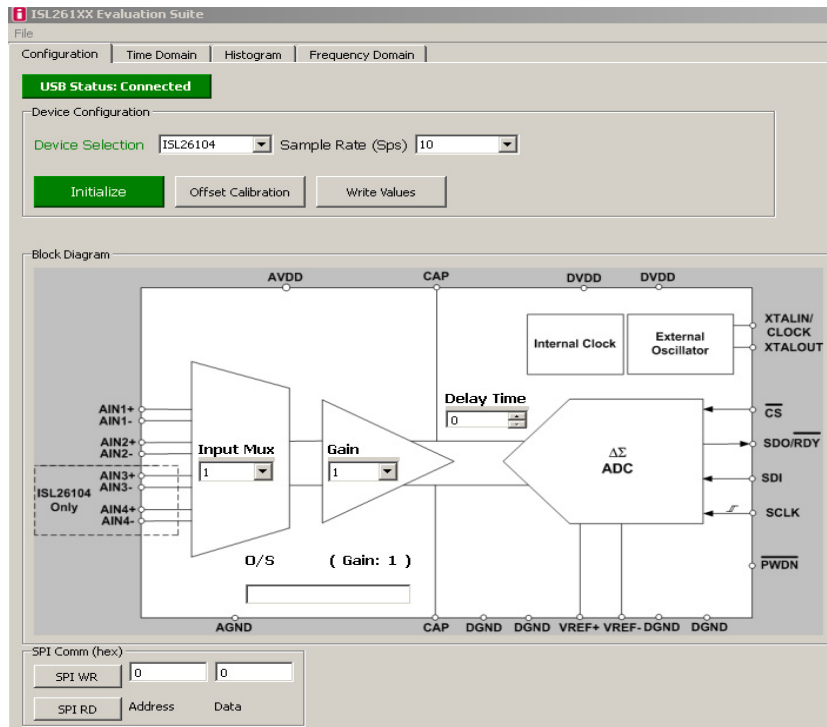
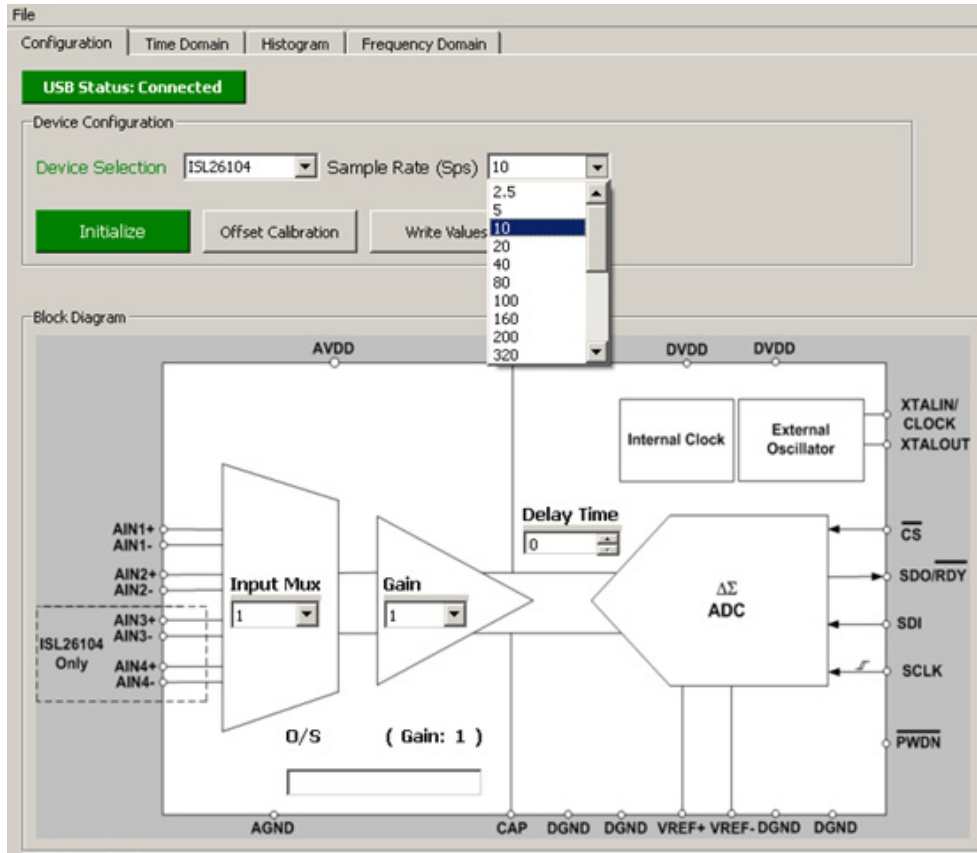
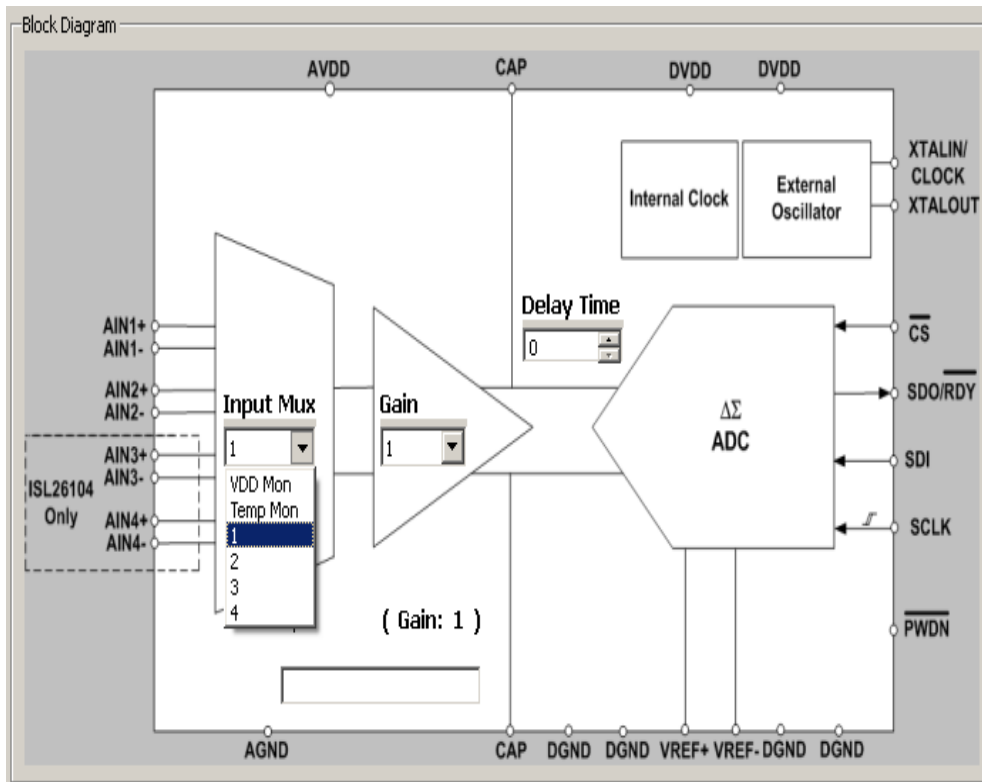
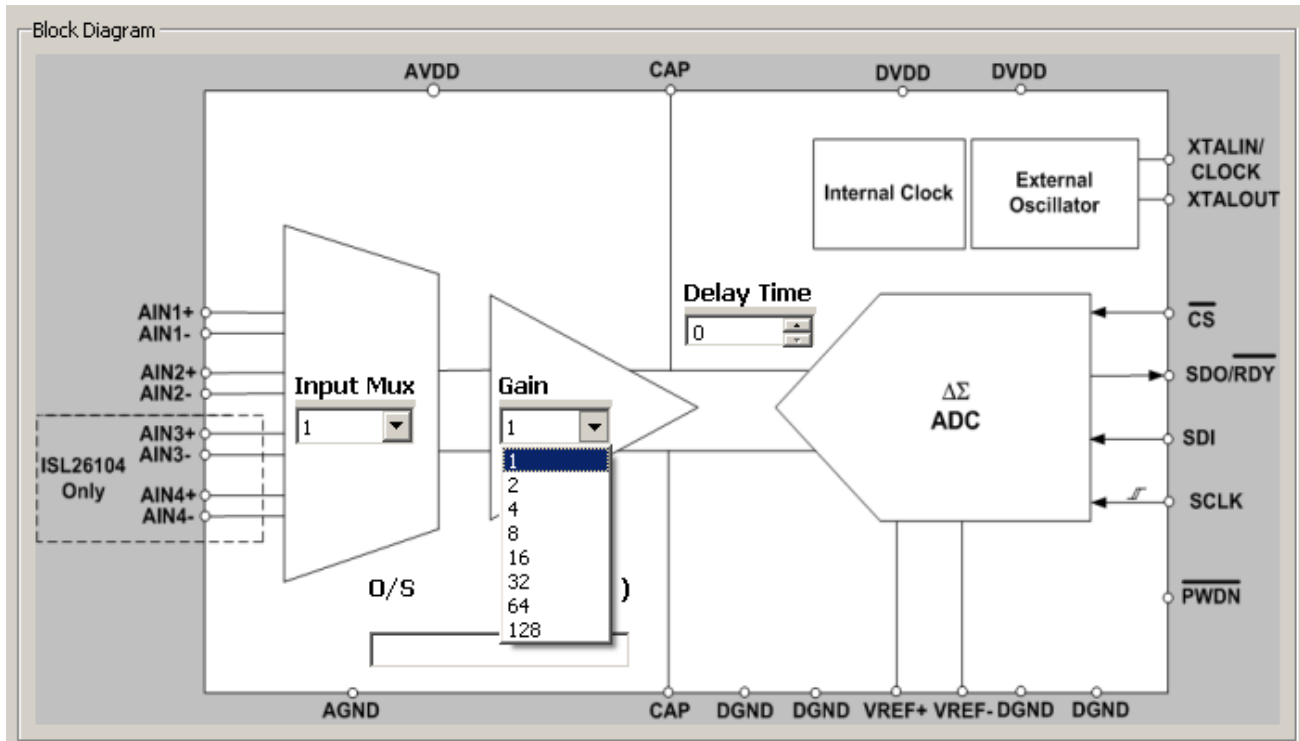

FIGURE 13.
FIGURE 14.
FIGURE 15.
FIGURE 16.
Once the **Initialize** button is clicked with the ISL26104 selection, the screen will change and illustrate a block diagram of the ISL26104 ADC with windows inside the block diagram to select various options, such as the **Input Mux** channel and the **Gain** options available in the ADC as shown in Figure 13.
The ISL26104 device uses on-chip registers as the means for it to be configured. The user of the GUI software can use the **Configuration** window to set up the various options in the ISL26104 device. Some of these options are (1) Input channel (**Input Mux**) selection, (2) **Sample Rate** selection, and (3) **Gain** selection. The ISL26104 allows the user to configure the various settings for the ISL26104 via the **Configuration** window of the GUI as shown in Figure 13. The **Sample Rate** can be set by using the Sample Rate pull down menu as shown in Figure 14. Sample rates from 2.5 to 4000 samples per second can be selected. The **Input Mux** can be changed via a pull down menu as shown in Figure 15. The **Gain** can be changed via a pull down menu as shown in Figure 16. Any time a menu option is changed the **Write Values** button should be clicked. This instructs the GUI software to send a command to the chip to change the appropriate on-chip register. Note that multiple items (**Sample Rate**, **Input Mux**, **Gain**, etc.) can be changed and the **Write Values** button need only be clicked once for all the selections to be sent to the evaluation board.